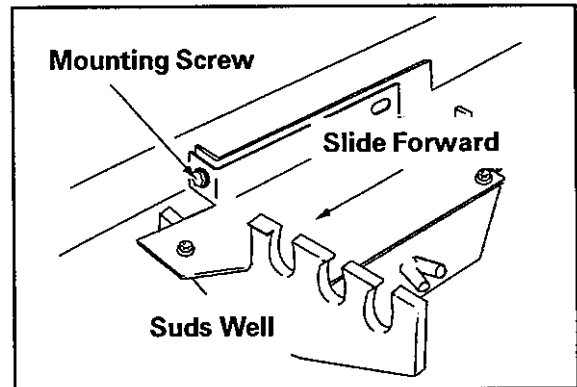

Figure 6-2
5. Remove the mounting screw holding the suds well into position. Slide the suds well forward and lower out of the way (Figure 6-2).